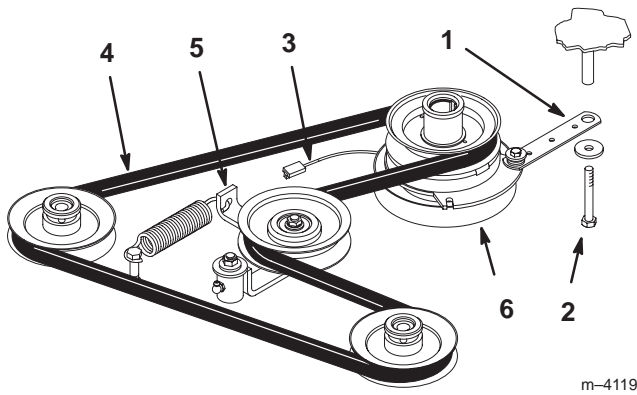

Figure 57
2. Remove the bolt from the clutch strap and unplug the clutch electrical wire (Fig. 57).
3. Pull the spring loaded idler to the side. Remove the traction belt from the engine and hydro pump pulleys (Fig. 57).
4. Install the new belt around the engine and hydro pump pulleys (Fig. 57).
5. Pull the spring loaded idler to the side and align the belt. Release pressure on the spring loaded idler (Fig. 57).